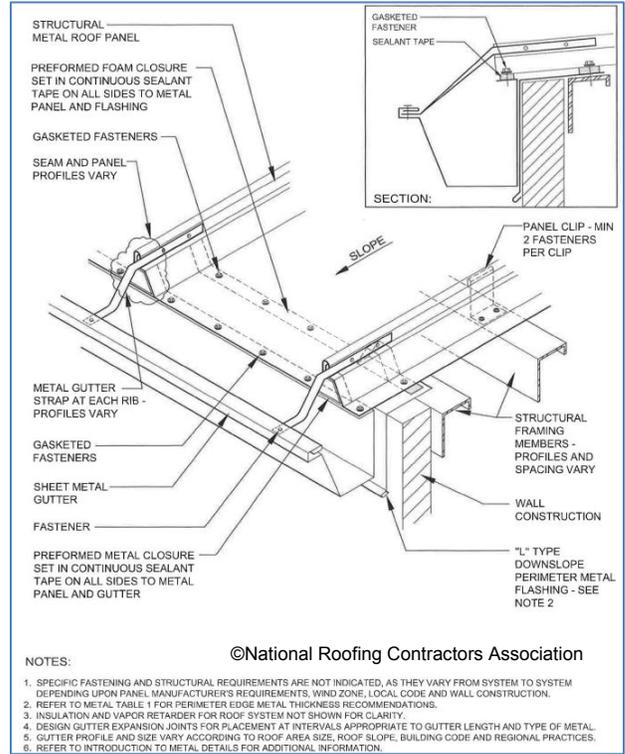

Figure 10-62
- Figure 10-62, "L"-Type Downslope with Gutter and Brackets and Straps